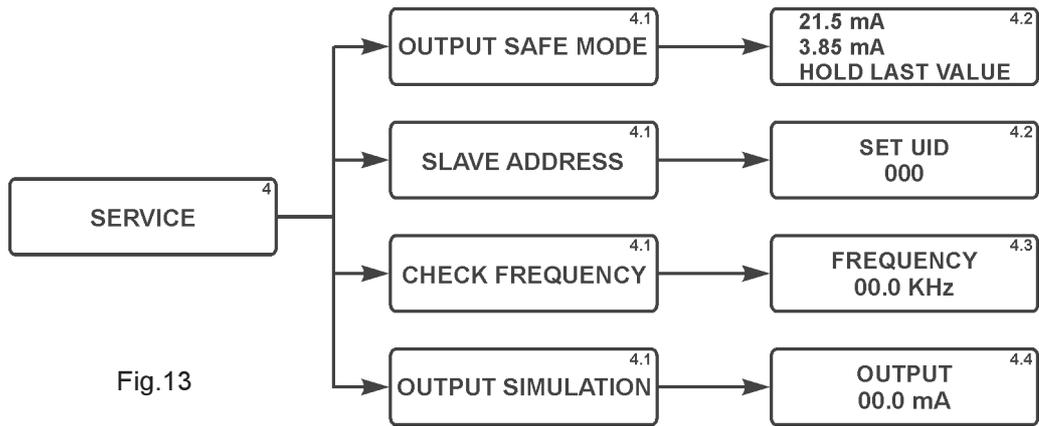

Fig.13
4. **SERVICE** - in this menu it's possible to set com mode, output mode, language, input password to enable parameters (fig. 13).